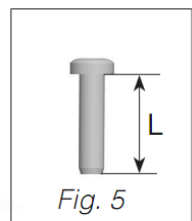
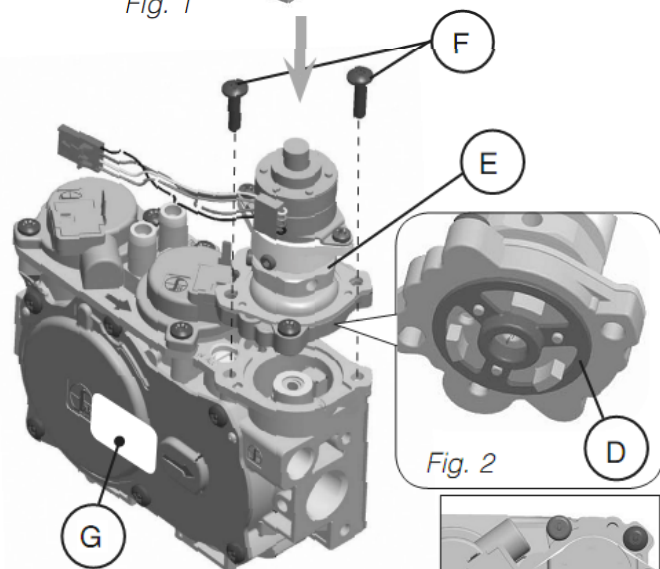
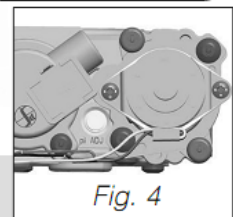

Fig. 5
Fig. 3
Fig. 4
- 4** Install the new STEPPER MOTOR pressure regulator assembly, as shown in Fig. 3 and Fig. 4. Use the supplied screws (F), M4 x 0.7 threaded, length of thread $L=(16\text{ mm} + 0 - 0.5\text{ mm})$, steel material, resistance class 8.8 (see Fig. 5).